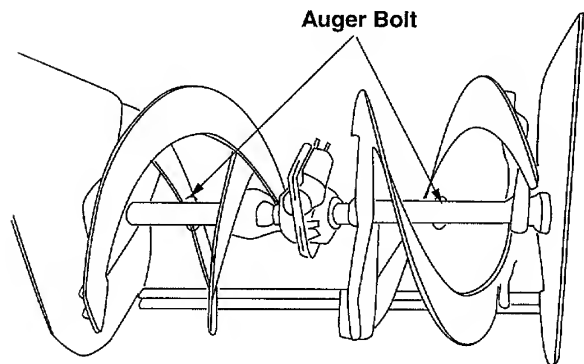

Figure 21
- If the augers will not turn, check to see if the bolts have sheared. Replace if necessary. See Figure 21. Two replacement shear bolts and hex lock nuts have been provided in the hardware pack with the snow thrower. See page 6.